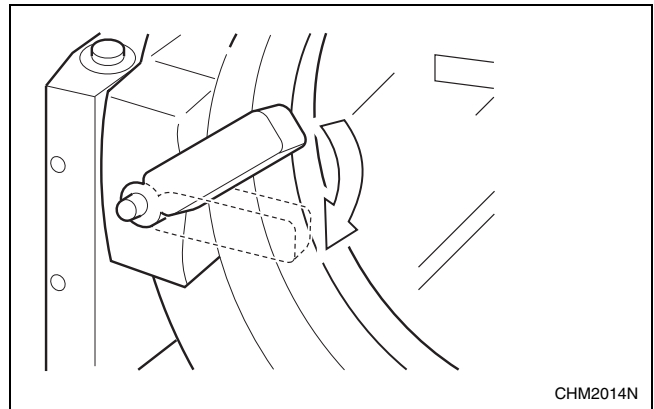

Figure 6
5. Close door and turn handle clockwise to horizontal position. Refer to *Figure 6*.